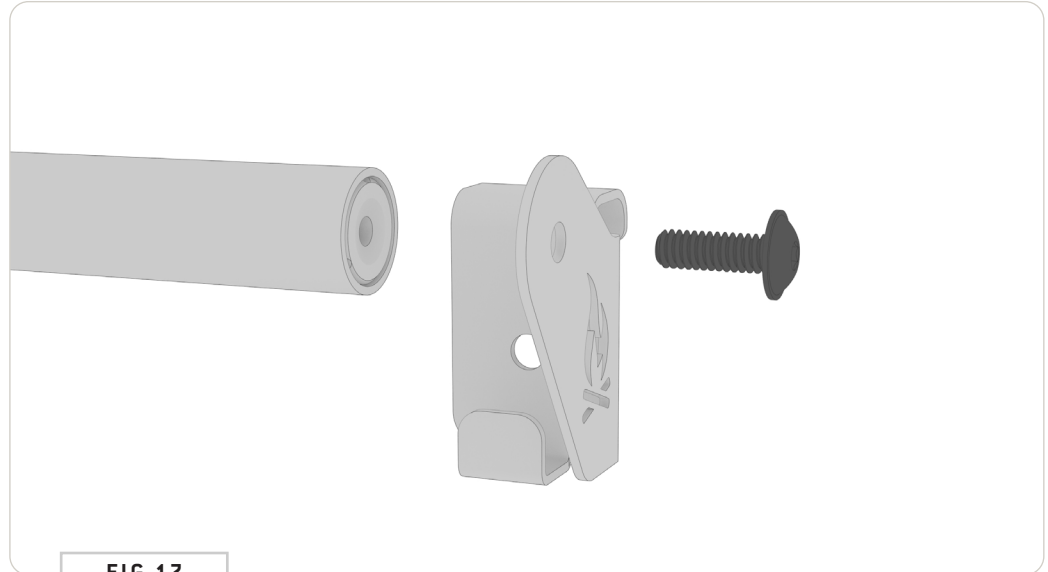
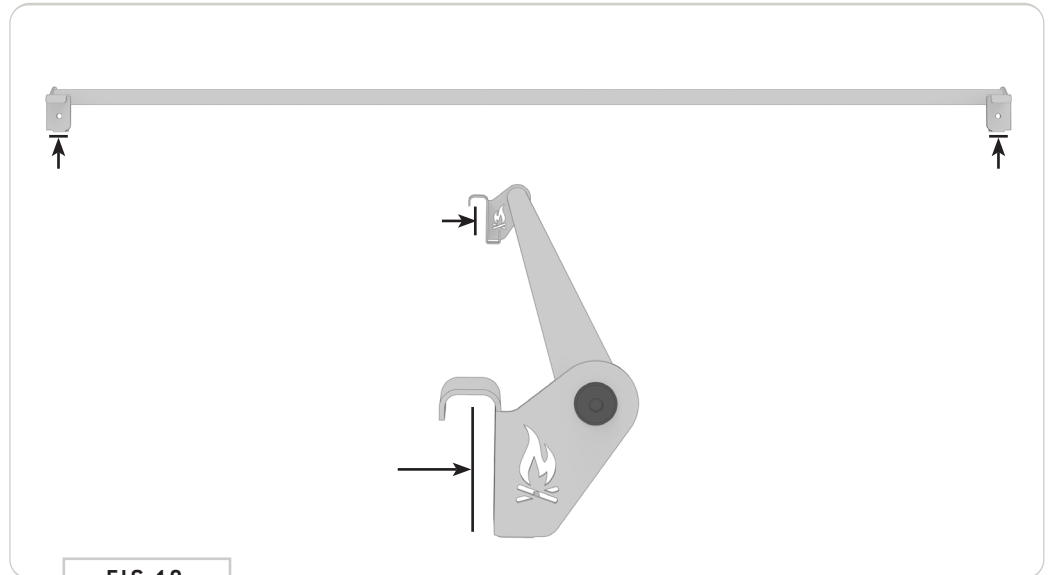

FIG 17
FIG 18
5.1 Assemble Curtain Rod: Use (1ea) 1/4-20 X 0.75" Flanged Button Head Screws with Loctite to install Driver and Passenger Side Brackets on the end of the Curtain Rod Weldment (FIG 17). Align the brackets so the mounting faces are parallel (FIG 18) and tighten the screws.